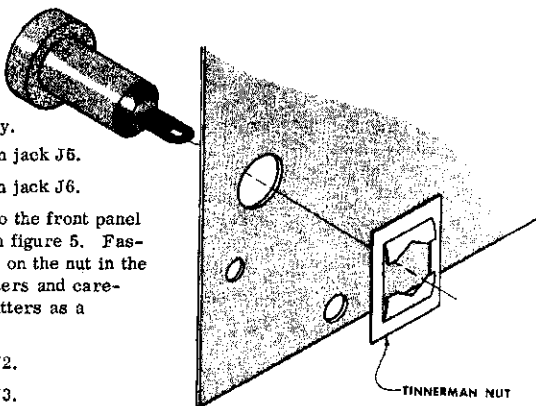
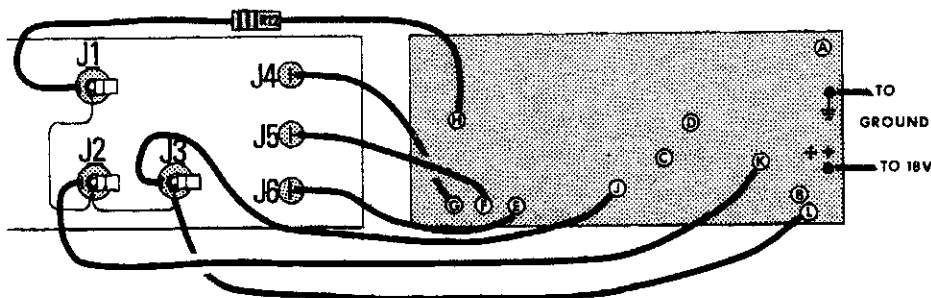

Figure 3
Figure 5
- ( ) Place a black pin jack ( J4 ) in the hole provided as shown in figure 5, and fasten it in place with a tinnerman nut as shown in detail figure 3. Press the tinnerman nut down firmly.
- ( ) Mount the miniature phone jack J1 to the front panel and orient it in the position shown in figure 5. Fasten it in place by putting the notches on the nut in the jaws of a small pair of diagonal cutters and carefully tightening the nut, using the cutters as a spanner.
- ( ) Using the bare wire provided make connections between the bottom lugs (ground) of the miniature phone jacks J1, J2 and J3 as shown in figure 5. The wire need only be passed through the ground lug of J2; a tight crimp connection is not necessary. Solder the wire at J1 and J2 but DO NOT SOLDER TO J3 AT THIS TIME.
- ( ) Connect the wire from point "J" on the circuit board to the center lug of miniature phone jack J3 as shown in figure 5. SOLDER THIS CONNECTION.
- ( ) Connect the wire from point "L" to the bottom lug of J3 (ground) as shown in figure 5. SOLDER THE TWO WIRES CONNECTED TO THIS LUG.
- ( ) Connect the wire from point "E" on the circuit board to pin jack J6 as shown in figure 5. SOLDER THIS CONNECTION.